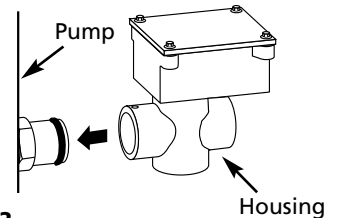

Figure 2
5. Push the oil level guard housing on to the adapter (See Figure 2).